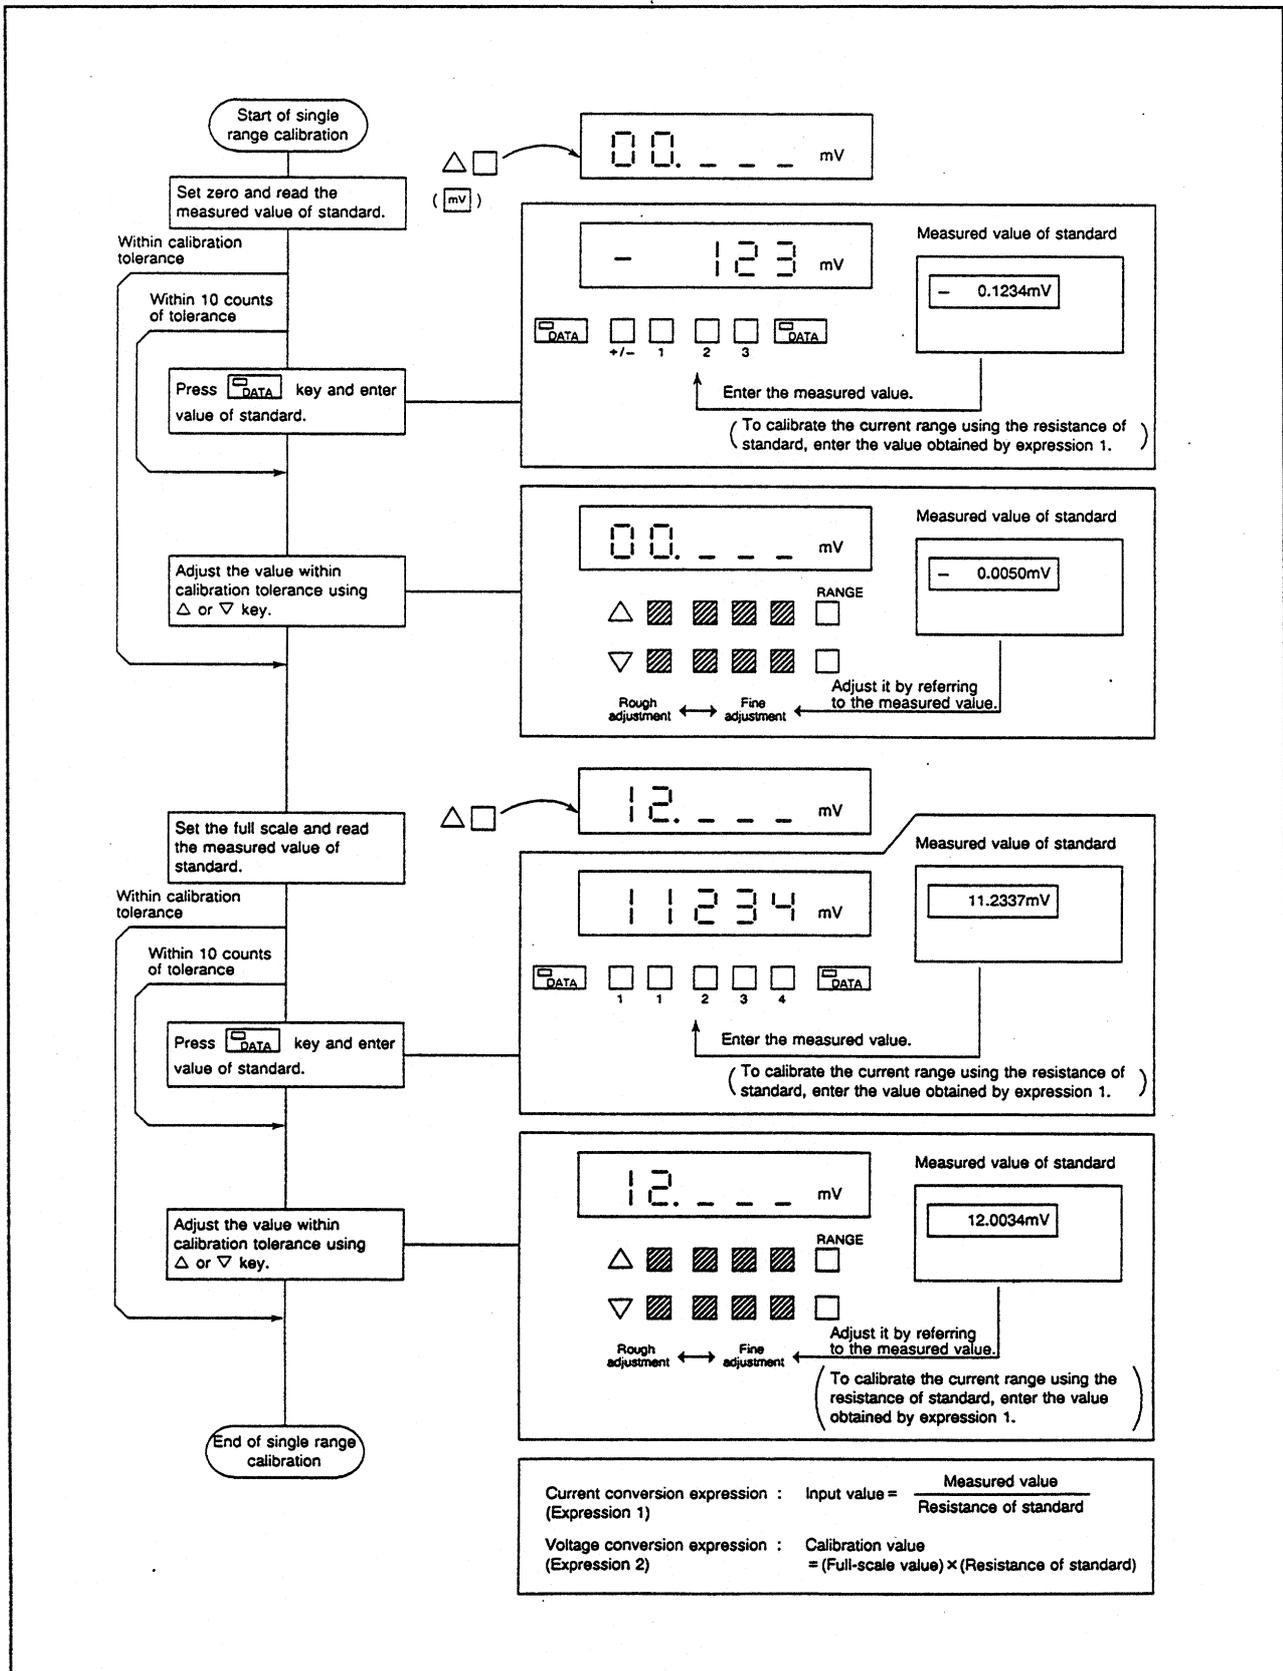

Figure 5-2 Calibration of A Single Range using R6142
- ⑤ Select the calibration range using the Δ or ∇ key, and set the standard as defined on Table 5-5.
- ⑥ Press the OPERATE key to light its LED. (OPERATE ON)
- ⑦ Calibrate and check the parameters using the Δ or ∇ key and ⁺ and ⁻ keys in the sequence of "+ Zero" and "+ Full scale as shown in Figures 5-2 and 5-3.
- ⑧ Press the OPERATE key to turn off its LED. (OPERATE OFF)
- ⑨ Repeat Steps ⑤ to ⑧ to calibrate the range between the setup functions.
- ⑩ Turn off the EXT CAL switch on the rear panel, and press the STEP key.
- ⑤ Select the calibration range using the Δ or ∇ key, and set the standard as defined on Table 5-7.
- ⑦ Calibrate and check the parameters using the Δ or ∇ key and ⁺ and ⁻ keys in the sequence of "+ Zero" and "+ Full scale" as shown in Figures 5-2 and 5-3.